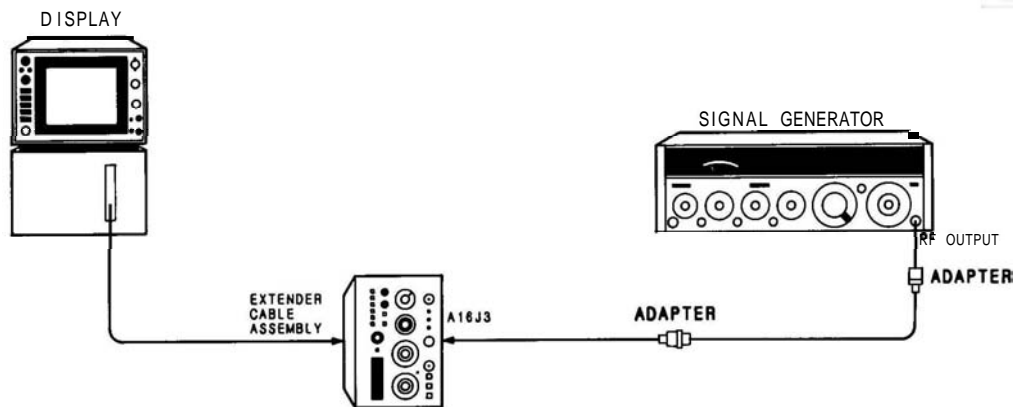

FIGURE 4-10. RESOLUTION BANDWIDTH ACCURACY TEST SETUP, 30 kHz TO 1 kHz
- 13. Connect equipment as shown in Figure 4-10.